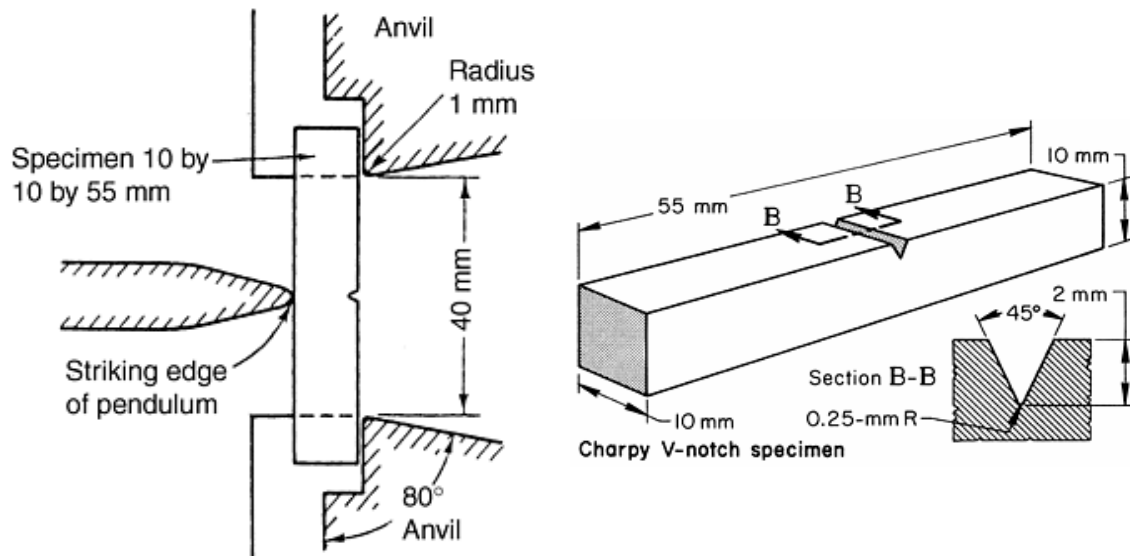
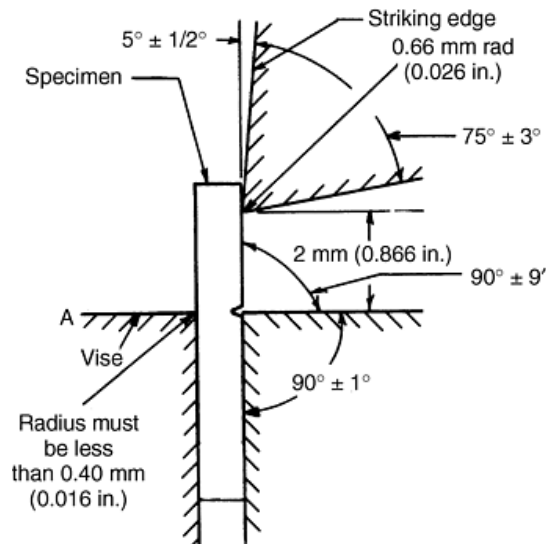

Figure 1. Standard Charpy V-Notch test setup and test specimen. Photos from ASM Handbooks Online, Vol. 8.
Figure 2. Diagram of a standard Izod impact test setup. Photo from ASM Handbooks Online, Vol. 8.
While there are many types of impact tests, the Charpy notched bar impact test is probably the most common test used for metals, and has thus become the industry standard. In a Charpy test, a notched bar is supported by two anvils and struck by the edge of a pendulum or falling weight. Charpy test specimen geometry and testing configuration are shown in Figure 1. The notch in the bar provides stress concentration to cause fracture to occur in line with the notch. The Charpy test is quick and easy to perform, a feature that helps to decrease the degree to which the metal equilibrates towards room temperature after removing it from a controlled temperature environment such as liquid nitrogen or boiling water.
While the Charpy test is the industry standard for metals, it requires very specific dimensions for the test sample. An alternative to the Charpy test is the Izod test, which has specimen geometry constraints for two of the three dimensions. For polymers, Izod samples are slightly longer than Charpy samples, but are the same 10mm width. Importantly, the Izod specimen thickness may range from 3 to 12.7 mm. The Izod test is performed slightly differently than the Charpy test (Figure 2). Instead of resting the specimen on two anvils, Izod specimens are clamped on one end and cantilevered over a gap. The pendulum or falling weight strikes the sample on the same side as the notch.
4. Prepare the tower for the impact test, and place your specimen in the fixture. Charpy specimens should be placed in the fixture with the notch side facing down (see Figure 1). For Izod testing, the notch should face upward and be aligned with the edge of the fixture (see Figure 2). Press **Next**.